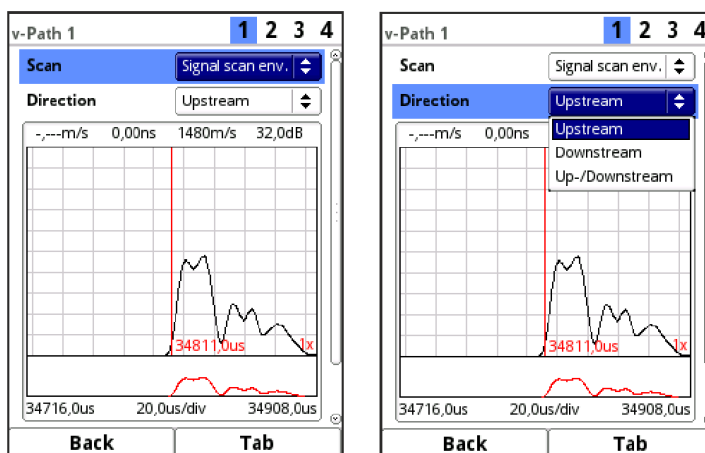

Fig. 41-3 Signal scan envelope
- **>Signal scan env.<** (Fig. 41-3)